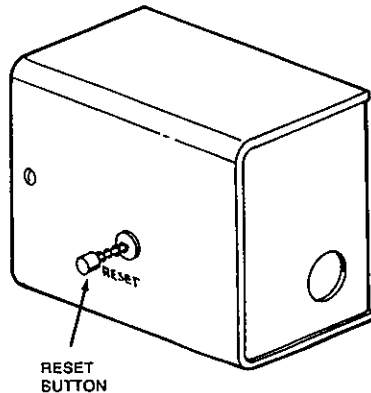

FIGURE 2
2. Push each pressure switch reset button on front of switch housing assembly. An audible click may be heard at this time depending on which condition the switch is in. See Figure 2.